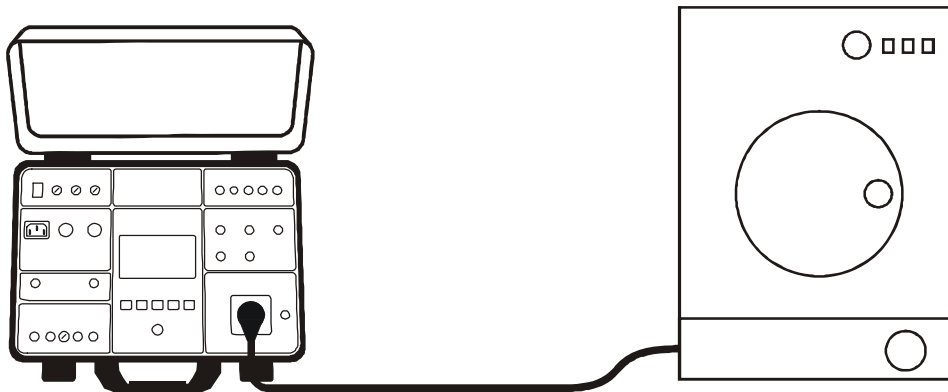

Figure 38: Connection of UUT to schuko test socket
- 3) Carry out the measurement by pressing the **START** button. The measurement will be done and test result will be displayed in green colour equipped with green thumbs up symbol and with beep-beep sound if it is in accordance with referential direction (1.2.3.). If the result is not in accordance with referential direction (2.1.3.) then it will be displayed in red colour equipped with red thumbs down symbol and with longer beep sound. See the display outlook with test result on the figure 38.